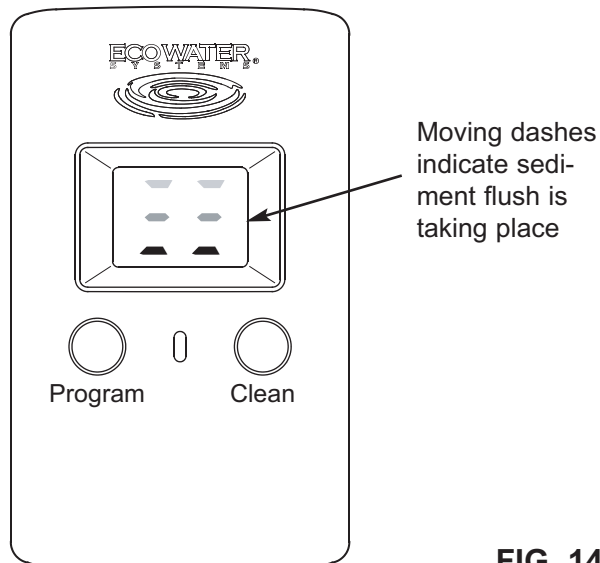

FIG. 14
1. Press the CLEAN button and hold it for at least 2 seconds. When the 2-digit display changes to show moving dashes (See Figure 14), release the CLEAN button.